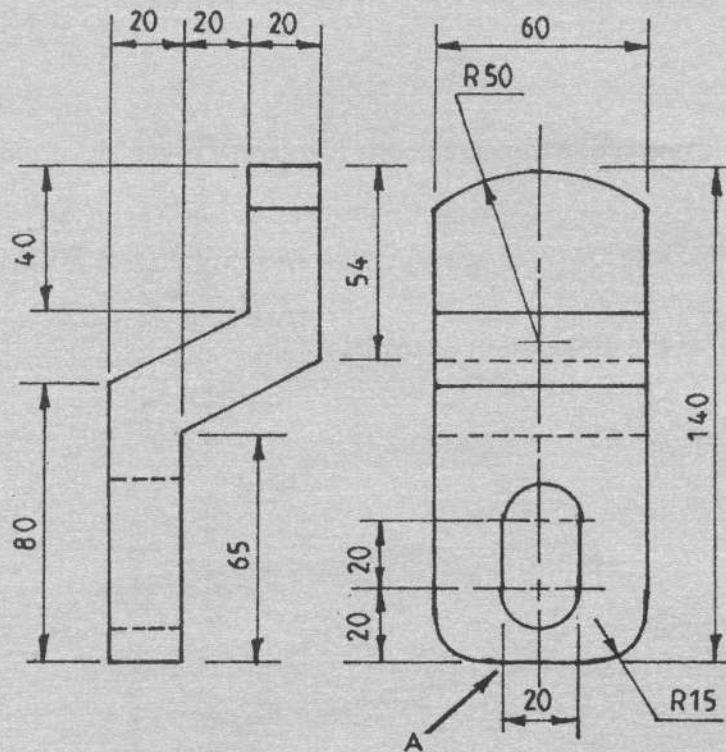

Fig. 2
6. Figure 2 shows two views of a holding down clamp. Draw the clamp full size in oblique cabin projection with face A as the lowest. (20 marks)